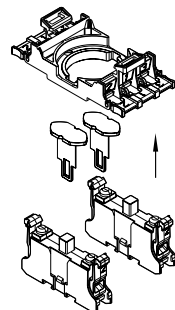

Fig. 4
3. Preliminary fitting of the contact elements onto the contact carrier (see Fig. 4): only the outward positions may be equipped*: